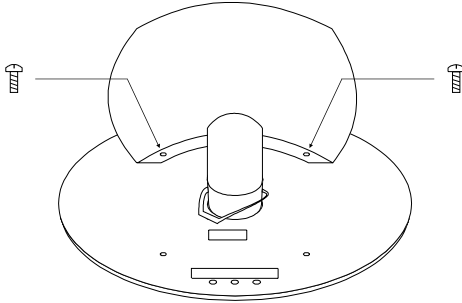

Figure 15. Horizontal Reflector Installation
4. Attach the reflector to the base plate using the two self-tapping screws supplied with the reflector. Refer to Figure 15.